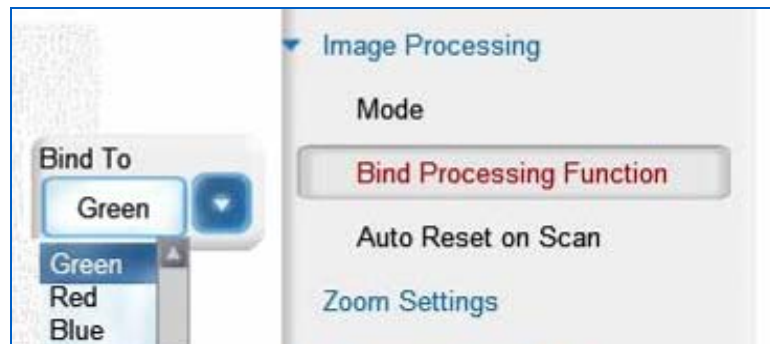

Figure 130: Image Processing – Bind Processing Functions
8. Select Bind Processing Functions and the drop down menu will appear (Figure 130).